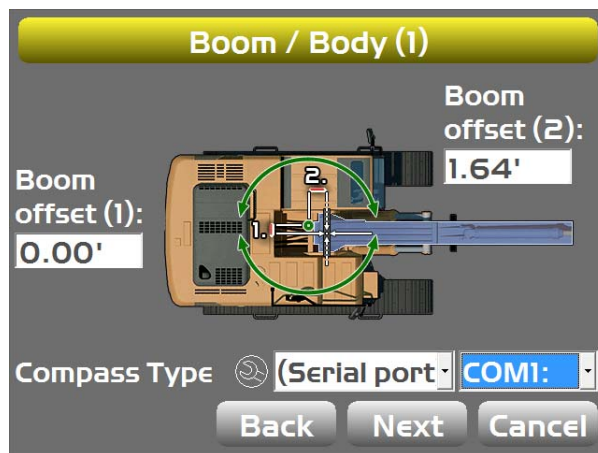

Figure 59: Select the Compass Type and COM Port
4. Tap **Next** until you reach the **Boom / Body (1)** screen.
5. Select **(Serial port)** for the **Compass Type**, and then select the appropriate COM port (Figure 59).